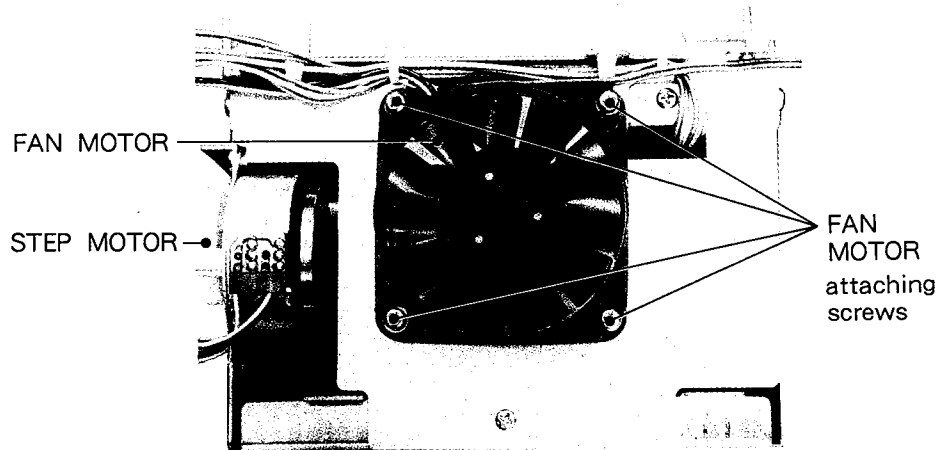

Fig. 9
2. Remove screws securing the FAN MOTOR. (Fig. 9)